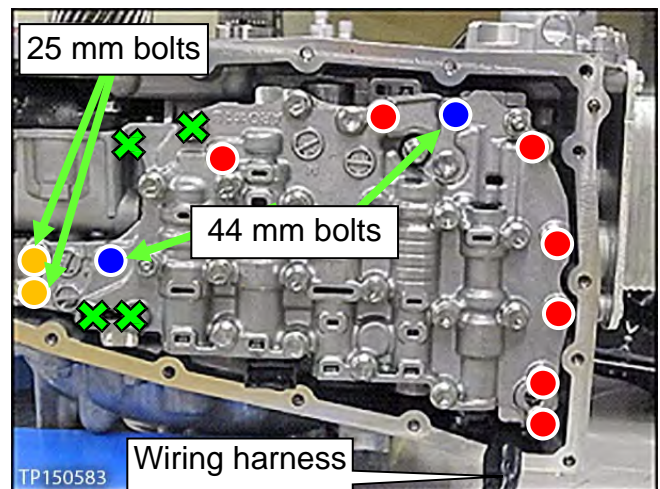

Figure 23
3. Install the Control Valve with nine (9) mounting bolts (Figure 23).